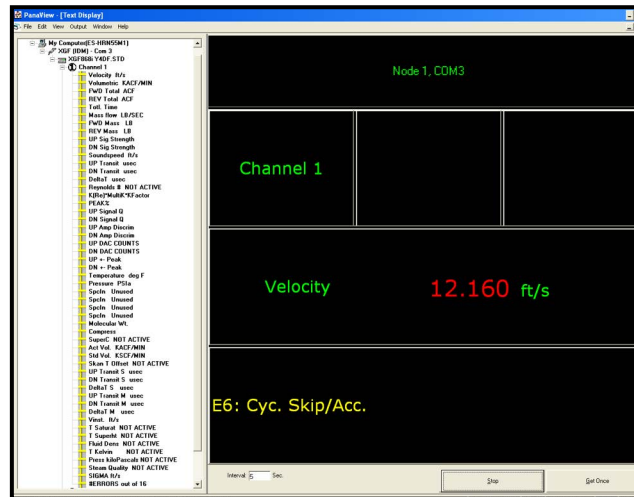

Figure 16: Multiple Text Screens in the *Text Display* Window
2. Repeat Step 1 for any desired additional process parameters, by double clicking on them in the PanaView network tree. PanaView automatically tiles the multiple text screens in the right pane of the *Text Display* window, as shown in *Figure 16* below.